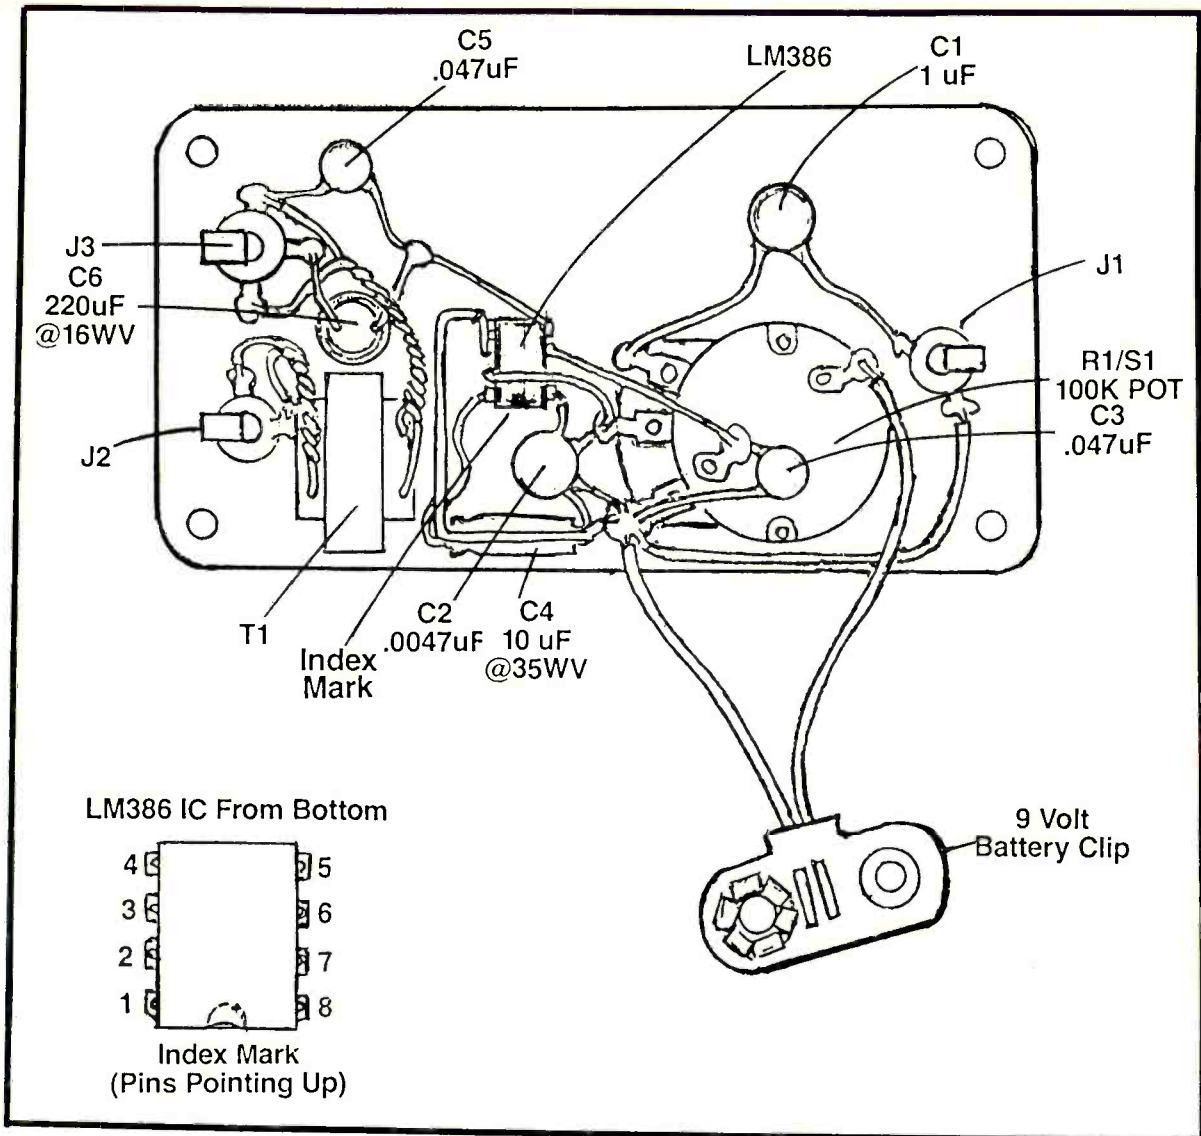

Figure 2 Parts Layout and Wiring Pictorial Diagram
**STEP 2.** (Refer to Figure 2 and Photos #2, #3, and #5) Clamp the volume control shaft in a vise and cut it to  $\frac{3}{8}$  inch long using a hacksaw. Smooth the rough edges of the shaft with a fine file or emery board.
Remove the back cover of the volume control and install the switch according to the instructions provided on the back of the blister pack that it came in. Mount the volume control and phone jacks to the face plate as shown in Figure 2 and Photo #5.
**STEP 3.** (Refer to Figure 2 and Photo #5) Use coarse sandpaper to roughen up the mounting surfaces of the LM386 IC, transformer T1, and capacitor C6. Sand the face plate where these parts will be mounted. This will provide clean, textured surfaces for the glue to grip and will ensure a good bond.
Orient the index mark (a notch or dot) on the IC according to Figure 2, then glue the LM386 IC, trans-
**STEP 4.** (Refer to Figures 2 and 3 and Photo #6) Use the project box to hold the inverted face plate while performing this step. Consult the Pictorial Diagram, Figure 2, the Schematic, Figure 3, and the Wired Amp, Photo #6 and proceed with the wiring of the amplifier as follows:
(K) Solder one lead of capacitor C5 to the phone jack J3 ground lug as shown in Figure 2. Solder the positive (+) lead of capacitor C6 to the other lead of capacitor C5 as shown. Solder this lead of capacitor C5 to the IC, pin 5.